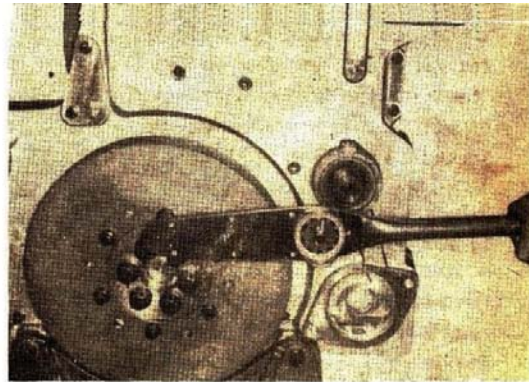

Fig. 14-77, Tighten the vibration damper to crankshaft adapter
4. Lubricate the washer faces and capscrew threads with a clean engine lubricating oil. Tighten the capscrews alternately and evenly to 65 to 75 ft-lbs (88 to 102 Nm) torque. Fig. 14-77.